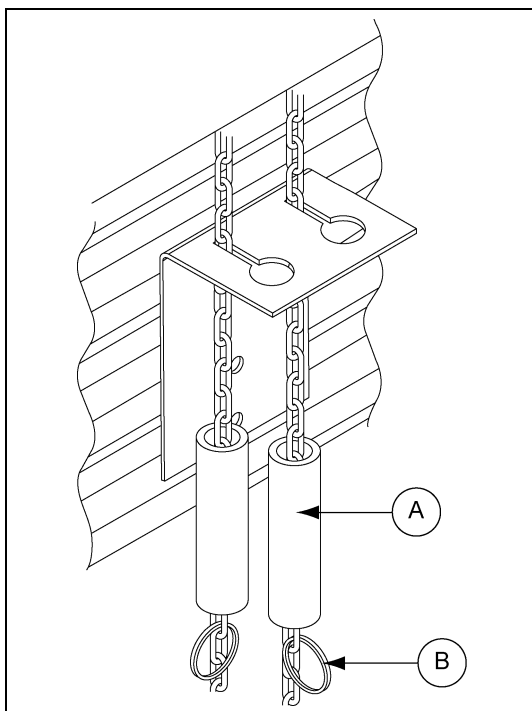

Figure 8
Place split ring (S-4318) (B) under handle. (See Figure 8.)